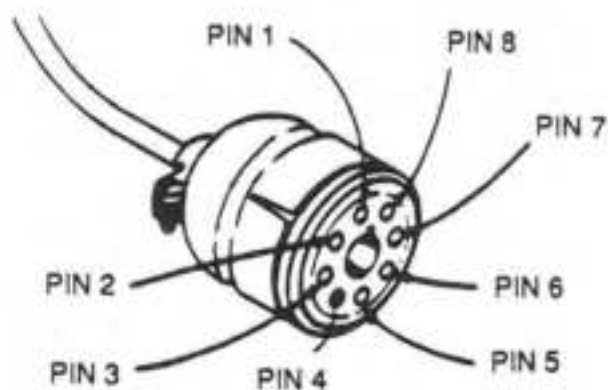

Figure 6-1. Ion Source Connector
- 3 Measure the following D-C voltages (± 20 percent) at each pin to ground on the ion source connector as shown in Figure 6-1.
- 6 Check pins 2, 3, 6, and 7 in the ion source corresponding to the pins shown on the connector (Figure 6-1). Check that the pins are electrically isolated from ground as well as from each other.